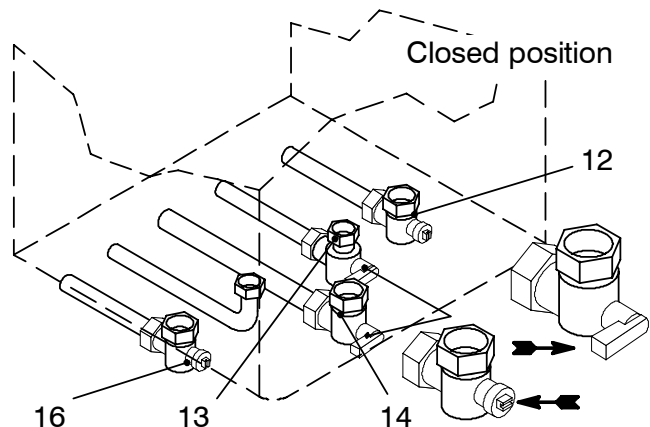

Fig. 9.3
- 1 Check that the gas cock (14 in Fig. 9.3) fitted under the boiler is turned off and the appliance is switched off at the mains isolating spur.
15 Open the gas cock (14 in Fig. 9.3)
- 1 Turn off the d.c.w. inlet isolating valve (13 in Fig. 9.3) and turn on the hot water taps and any drain cocks.
- 1 Close the c.h. isolating valves (12 and 16 in Fig. 9.3).